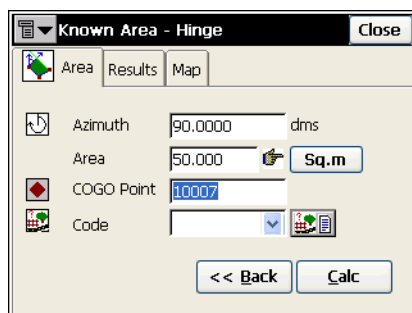

Figure 9-38. Known Area - Hinge – Area Tab 2
- **Next**: opens the second screen under *Area* tab (Figure 9-38 on page 9-30).